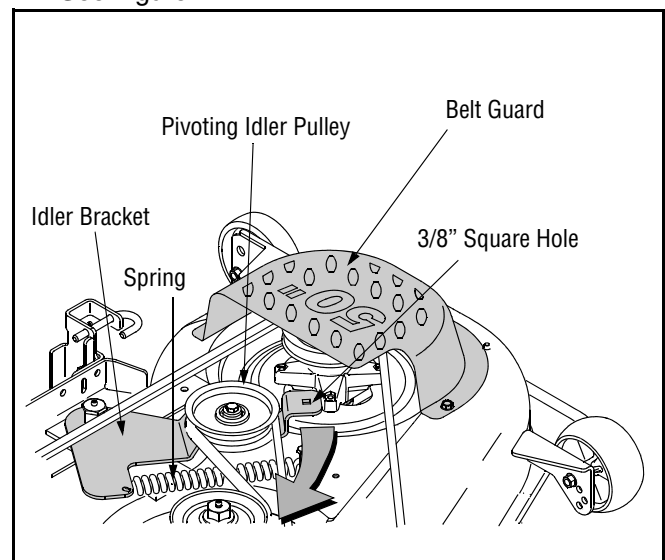

Figure 21
- To ease in removing the belt in later steps, loosen, but do not remove, the bolt which secures the pivoting idler pulley to the idler bracket. See Figure 21.
- Insert a 3/8"-drive ratchet wrench (set to *tighten*, Model SLT 1550 or set to *loosen*, Model SLT 1554) into the square hole found in the idler bracket on the left side of the deck's surface. See Figure 21. (Model SLT 1550) or Figure 22 (Model SLT 1554).